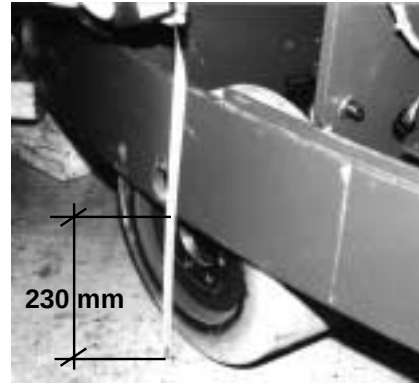

Fig. 1
- Jack up the vehicle to approx. 230 mm (Fig. 1) and secure it to prevent it rolling away.